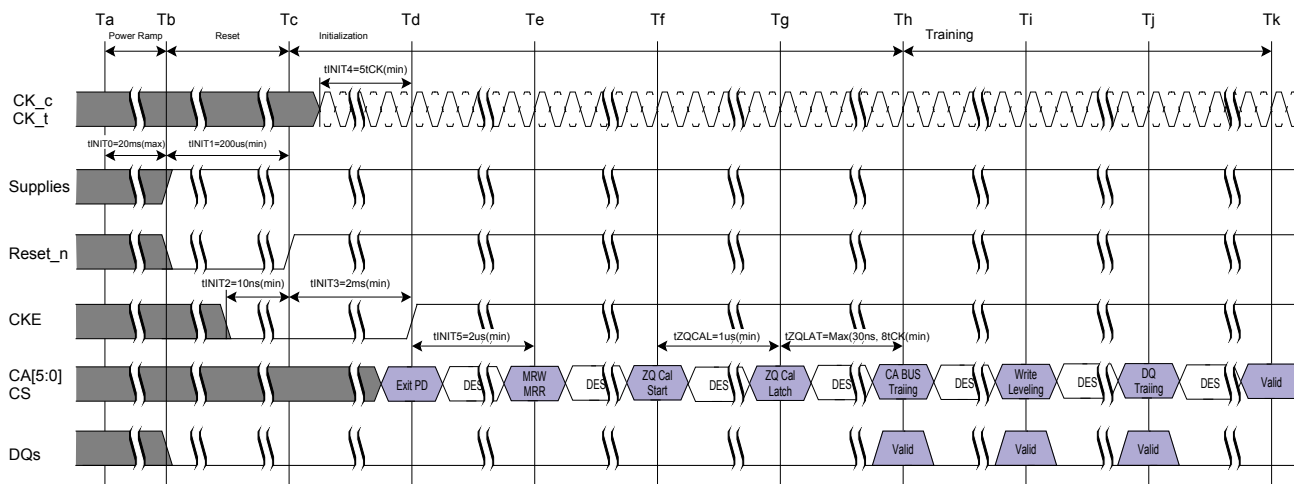

Figure 1. Power Ramp and Initialization Sequence
1) Training is optional and may be done at the system architects discretion. The training sequence after ZQ_CAL Latch (Th, Sequence7~9) in Figure 1 is simplified recommendation and actual training sequence may vary depending on systems.